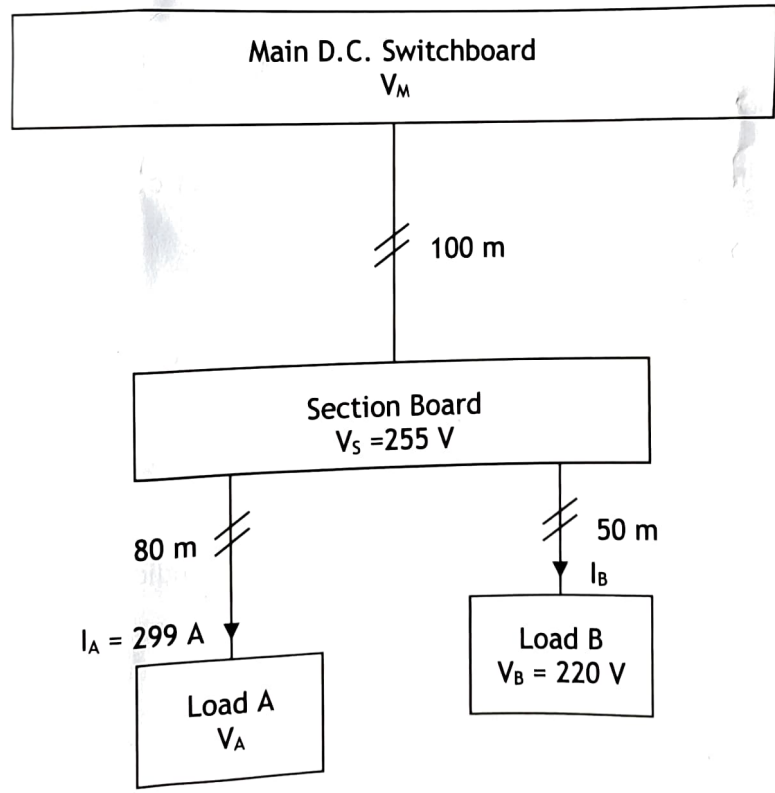

Fig Q1
- 1. Fig Q1 shows a d.c. distribution system. The main feeder cable has a resistance (go + return) of $1.45 \times 10^{-3} \Omega/m$, and the load cables have a resistance (go + return) of $2.3 \times 10^{-3} \Omega/m$.
- (i) the voltage at load A; (3)
- (ii) the power dissipated at load B; (6)
- (iii) the voltage at the main switchboard. (3)
- (b) Calculate the length of main feeder cable required to supply an additional 300 V, 350 A load at its rated values directly from the main switchboard. (4)